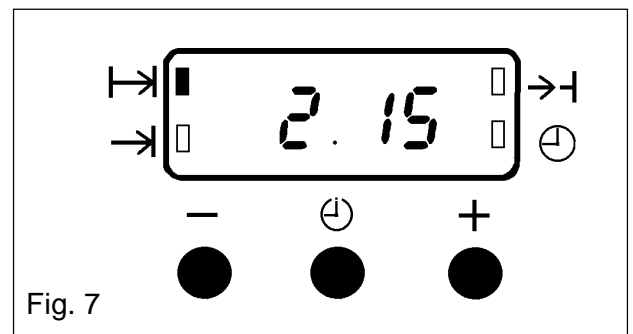

Fig. 7
- iii) To set the length of cooking time, press the Selector Control button (⌚) until the 'Cook Time' indicator is illuminated (|→). Press the increase control ( + ) until the required length of cooking time is displayed, e.g. 2 hrs 15 mins as Fig. 7. If necessary depress the decrease control ( - ) until the correct time interval is achieved.